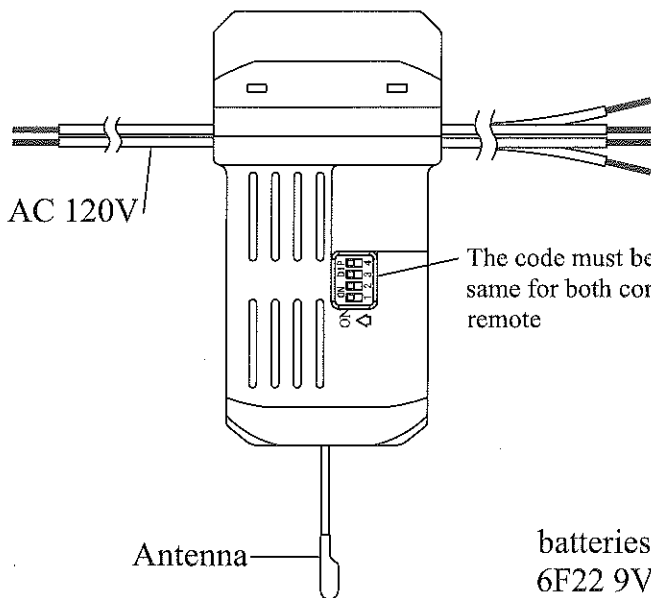

Fig.1 Controller
1. Pass fixture, safety cable (1) and canopy (5) through the rod (B), place the rod into the center column (E), align the holes at the bottom of the rod with the center column and carefully insert hitch pin (F) through, then insert the lock pin (G) through the holes near the end of the hitch pin. Tighten the screws (H) with provided tool.
2. screw the bulb (2) into socket.
3. Secure the hanger bracket (A) to the junction box with the screws (4) and washers (3), then place the downward ball (C) into the hanger bracket.
4. An additional safety support is provided to prevent the fan from falling. Secure the safety cable to the ceiling joist with screw and washer, as illustrated in Figure 1.
6. Secure the canopy to hanger bracket with screws (6).